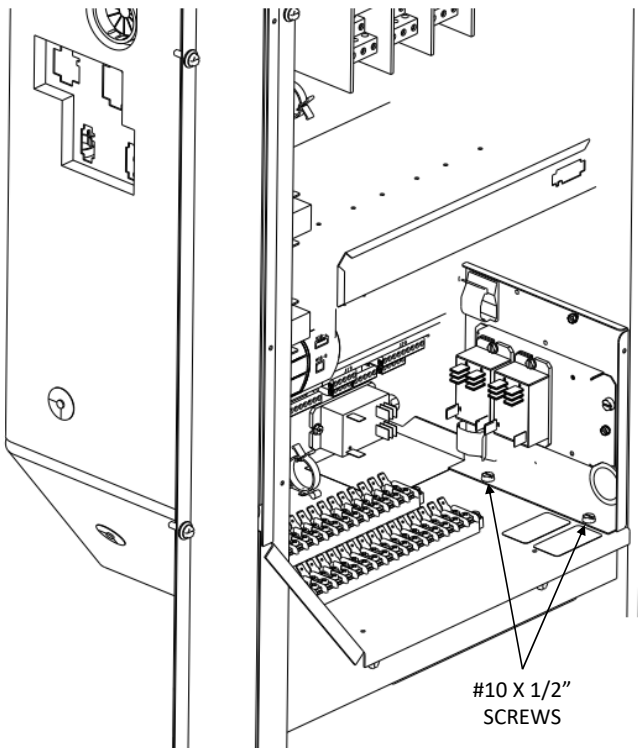

FIGURE 10
5. Attach Accessory Mount with the DDC LACK Mount and relays to the control box with the two remaining #10 X 1/2" screw. See Figure 10.